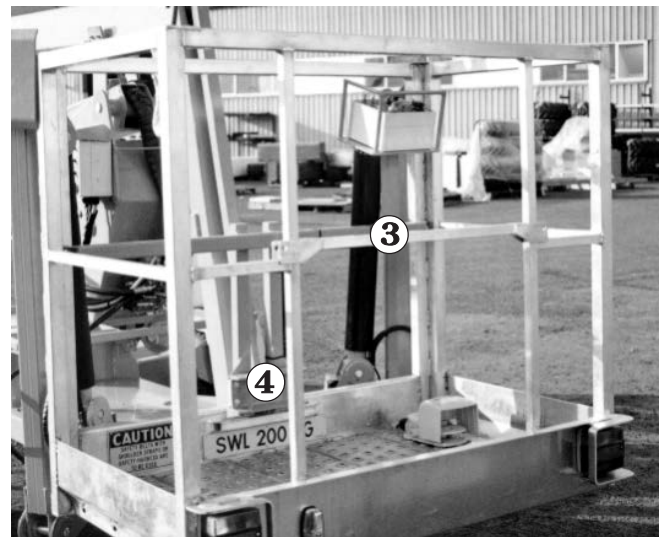

Figure 8.6
- Enter the platform, close the gravity gate ③, and attach the lanyard of your fall restraint (safety harness) to one of the anchor points ④ (see Figure 8.6).